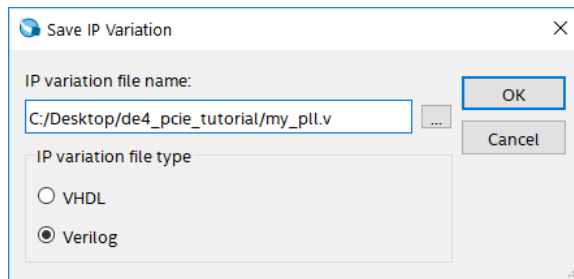

Figure 13. The IP Core Plug In Manager.
3. Choose the **Verilog** as the output file type for your design, and specify a variation name for output files. For this walkthrough, specify *my_pll.v* as the name of the IP core file: `<working_dir>/my_pll.v`, as shown in Figure 13, and click **OK**.